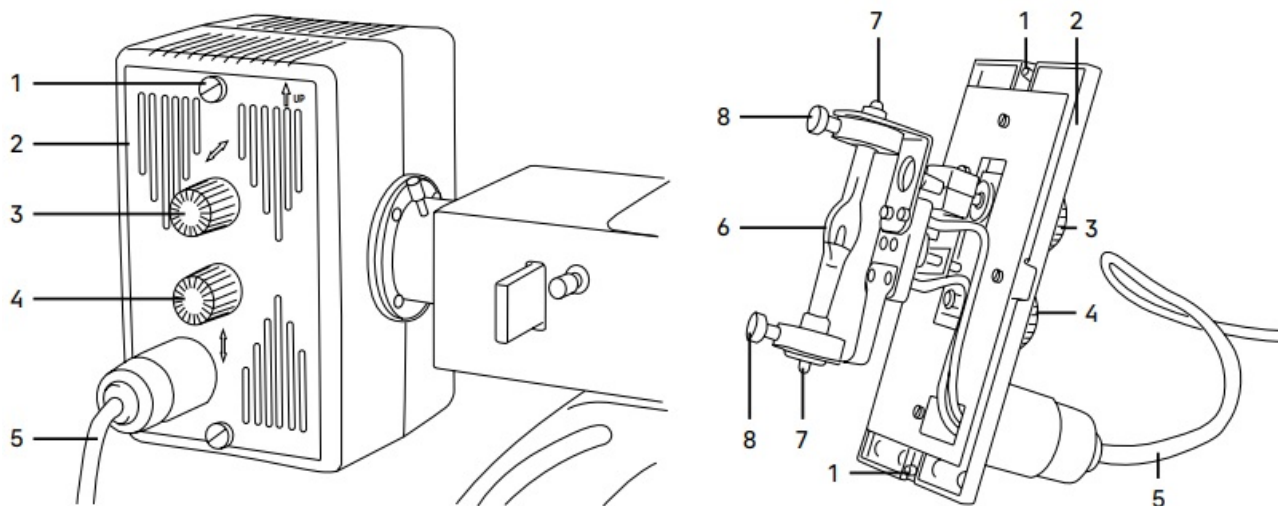

Fig. 4. Mercury lamphouse
- The lamphouse cover 2 (Fig. 4) is secured to the lamphouse using two screws 1 (Fig. 4). There is a mercury lamp holder on the inside of the cover. The mercury lamp 6 (Fig. 4) is installed in rings 7 (Fig. 4) and fixed with screws 8 (Fig. 4).
- Centering the mercury lamp in the optical path is performed by the knobs 3 and 4 (Fig. 4).